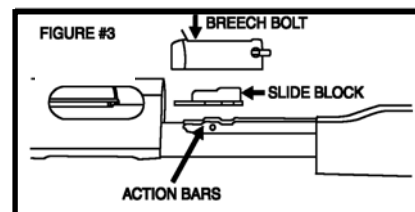

Figure 8
**Remington:** Slide the forend back on the magazine tube and replace the bolt and side block. Place the action bars into the receiver and pull in a backwards direction until it stops. (Fig. 8)